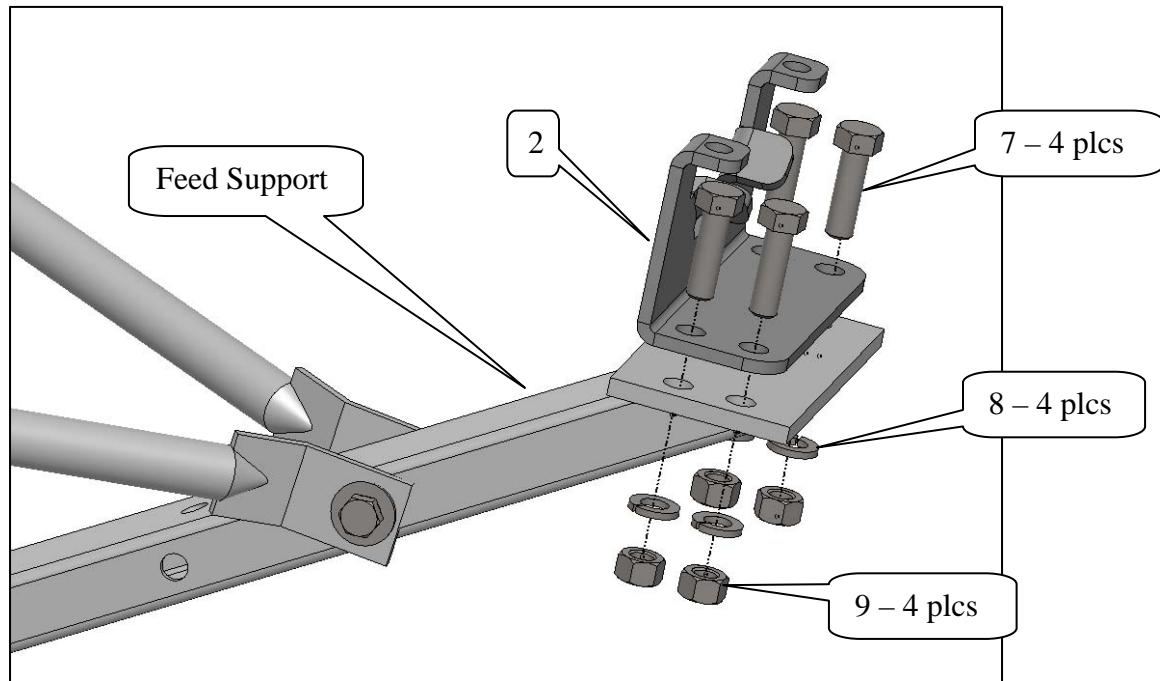

Figure 2.1-1
- Step 1:** Refer to the parts list table below and Figures 2.1-1 and 2.1-2.
- Step 2:** Attach the bottom feed mounting bracket (item #2) oriented as shown to the feed support with [4] 3/8-16 x 1.25" bolts, [4] lock washers, and [4] 3/8-16 hex nuts (item #7,8,9). See Figure 2.1-1. Tighten securely.